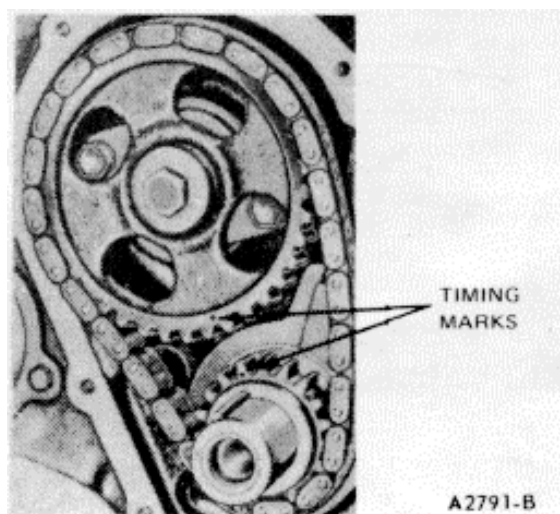
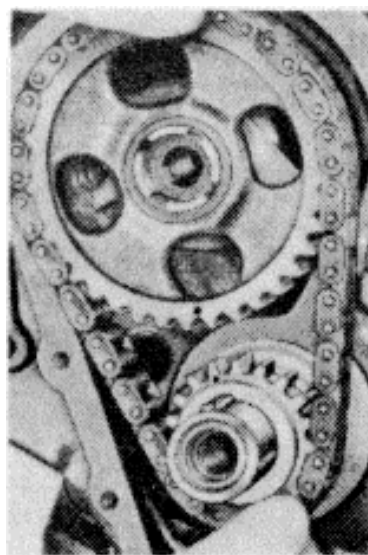

FIG. 40. Aligning Timing Marks
FIG. 41. Timing Chain and Sprockets Removal
8. Crank the engine until the timing marks are aligned as shown in Figure 40 Remove the camshaft sprocket attaching bolt and washer. Slide both sprockets and timing chain forward and remote them as an assembly (Figure 41).
1. Clean and inspect all parts before installation. Oil the timing chain after installing it on the camshaft and crankshaft. Be sure the timing marks on the sprockets are positioned as shown in Figure 40. Install the camshaft sprocket attaching bolt and washer. Torque the bolt to specifications.